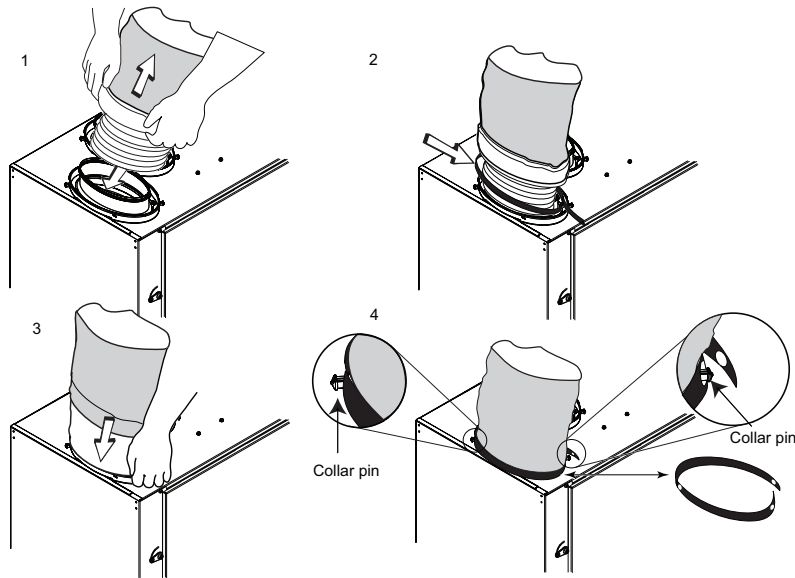

Fig. 15 - Ductwork installation
4. Pull down the vapor barrier (shaded part in Fig. 15) over the outer ring to cover it completely. Fasten in place the vapor